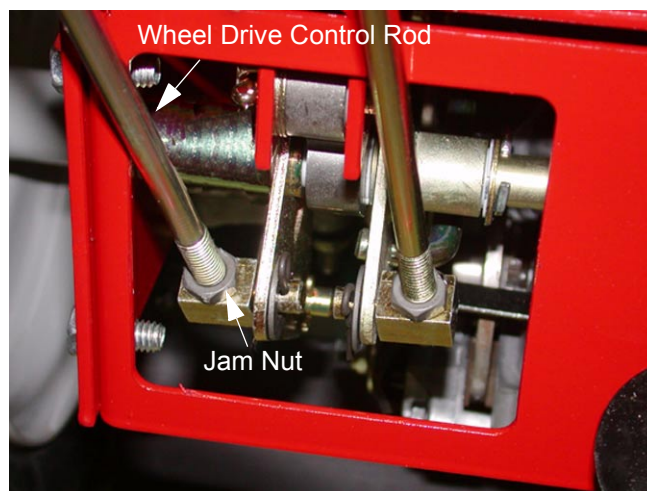

Figure 28
- 8.2. Using a 9/16" opened end wrench, loosen the jam nut on the lower end of the rod. See Figure 28.